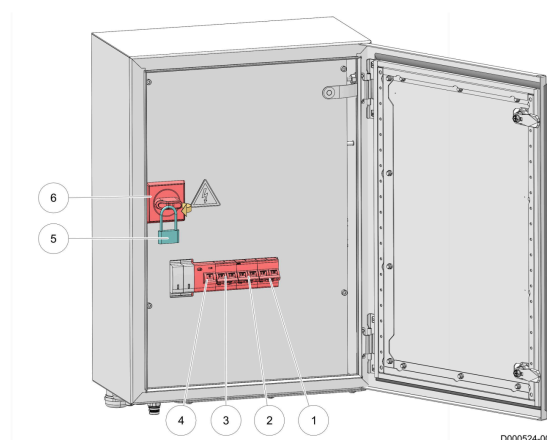

Figure 10. Main power supply switch RU
5. Set the circuit breakers one by one in the OFF position from right (1) to left (4) (see figure 10 on page 3-7).
6. Set the power supply switch (6) in the OFF position.
7. Install a padlock (5) on the main power supply switch (6) of the robot unit.